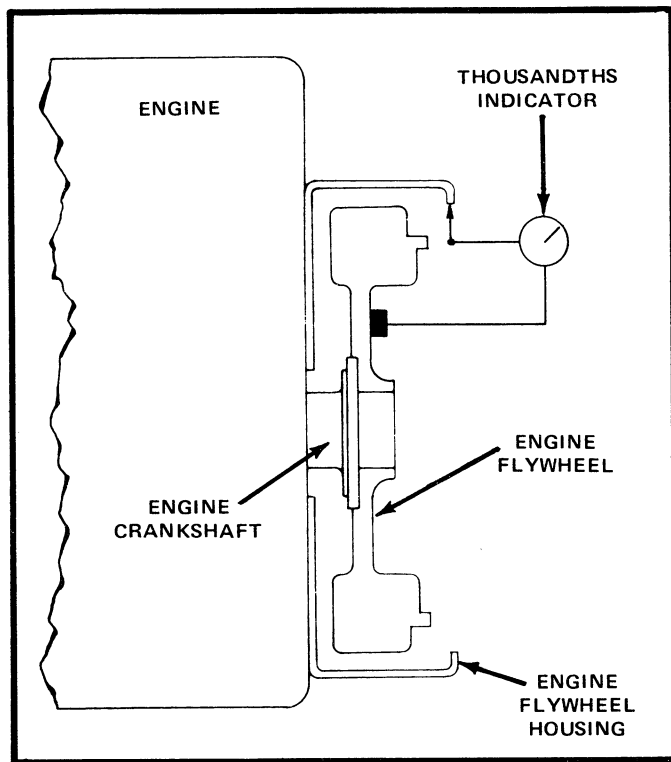

Figure 9-19. Checking the Bore of the Engine Flywheel Housing.
3. With the indicator mounted as in the above paragraph, adjust the indicator stem so that it will ride on the bore of the engine flywheel housing. See Figure 9-19.